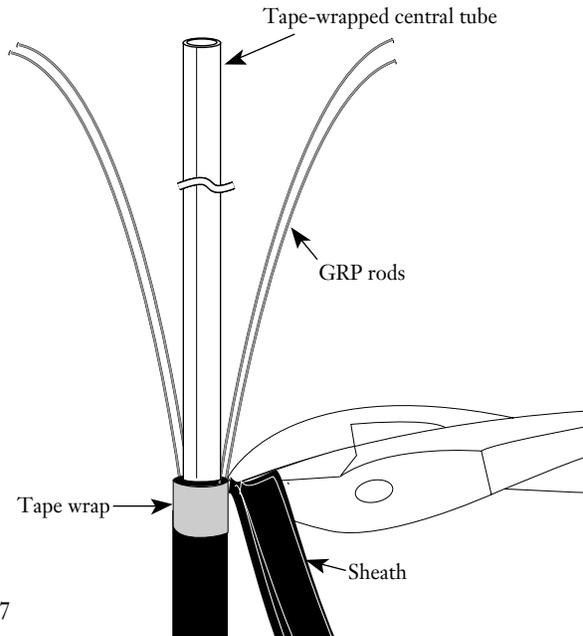

Figure 7
4.8 At the ring cut, carefully flex the sections of sheath and remove them. Side cutters may be helpful in their removal (Figure 7).